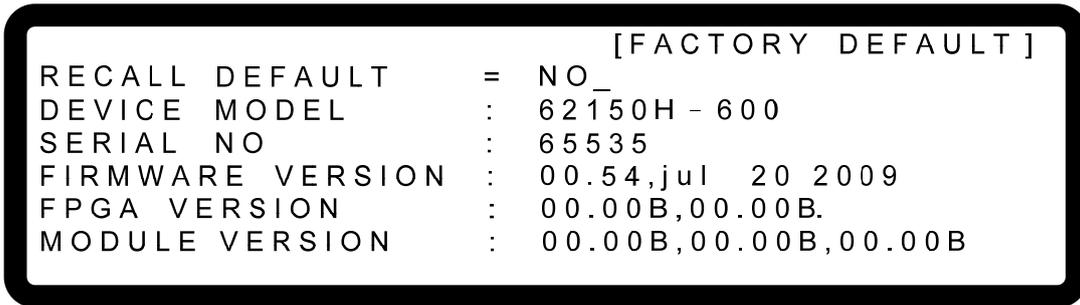

Figure 3-88
1. In Config Setup page, press " " and to enter into FACTORY SETTING option as Figure 3-88 shows.
DEVICE MODEL : Display the model no. **62150H-600** as Figure 3-88 shows.
SERIAL NO. : Display the serial no. **65535** as Figure 3-88 shows.
FIRMWARE VERSION : Display firmware version **00.54** and the released date July 20, 2009 as Figure 3-88 shows.
FPGA VERSION : Display the FPGA version no. **00.00B,00.00B** as Figure 3-88 shows.
MODULE VERSION : Display the module version no. **00.00B,00.00B,00.00B** as Figure 3-88 shows.